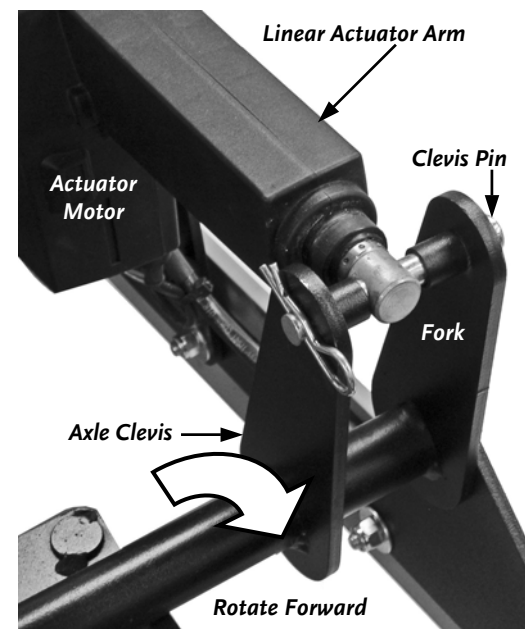
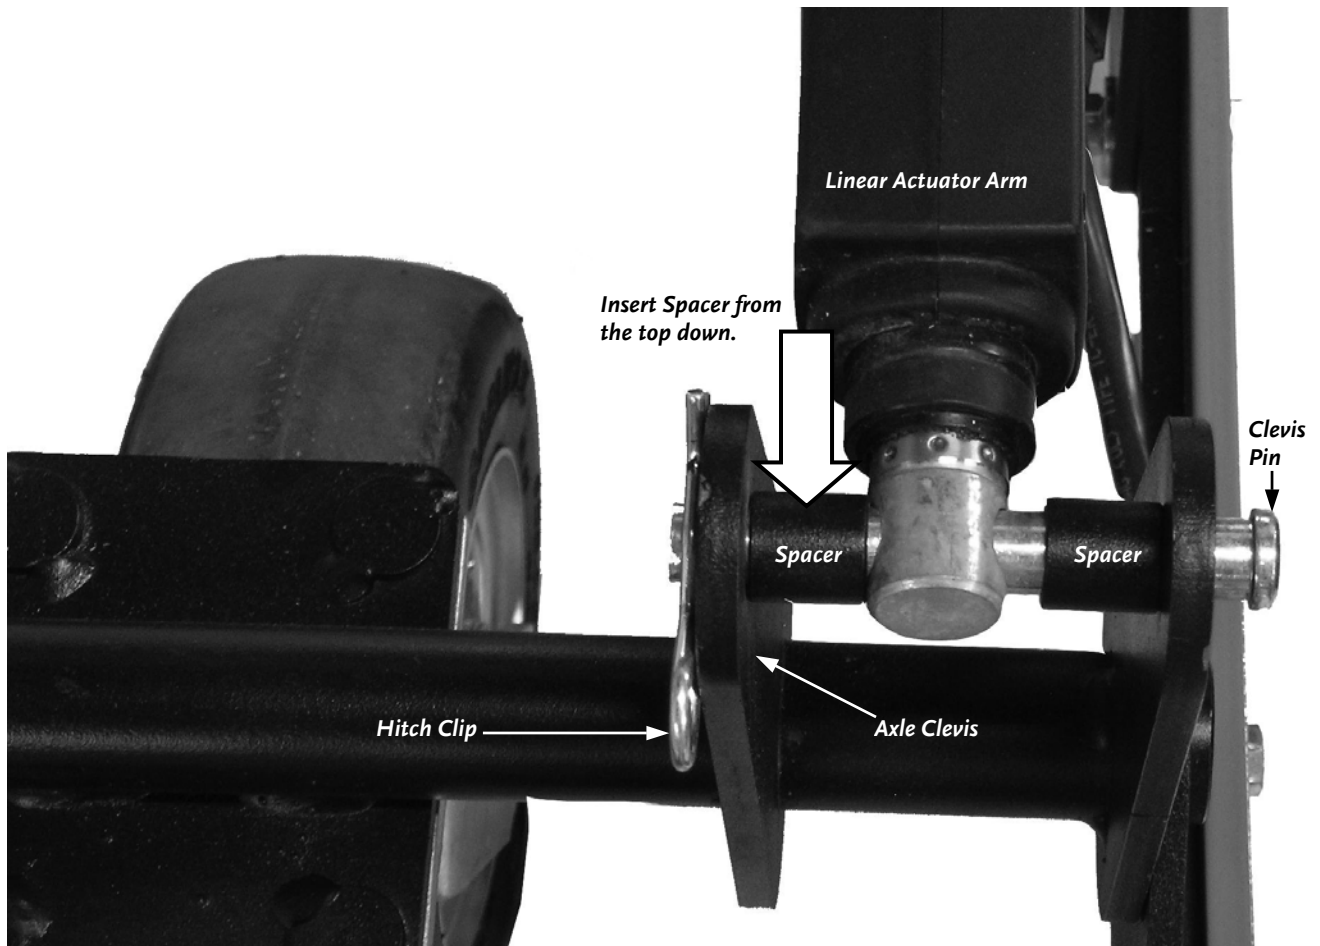

Figure 9
Figure 11
2. Locate the Linear Actuator and place it between the Clevis Base w/Battery Assembly and the Axle Clevis with the Actuator Arm facing the forward and Motor facing down (Figure 9).
8. Remove the Hitch Clip, Clevis Pin, and two (2) Spacers assembled on the Axle Clevis (Figure 9).
9. Pick up the Caster Wheel Axle Assembly to rotate the Clevis Arm Fork forward (Figure 9), so that the hole in the Linear Actuator Arm aligns with the holes in the Clevis Arm Fork and reinsert the Spacers, Clevis Pin, and Hitch Clip (Figure 11 on the next page).
NOTE: The Spacers go on either side of the Actuator Arm (Figure 11 on the next page).